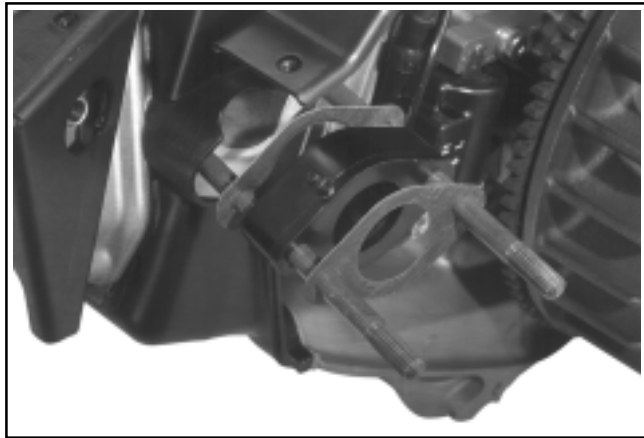

Figure 11-100. Carburetor Spacer and Gaskets.
1. Install a new carburetor spacer gasket onto the carburetor studs, followed by the carburetor spacer and another spacer gasket. See Figure 11-100.